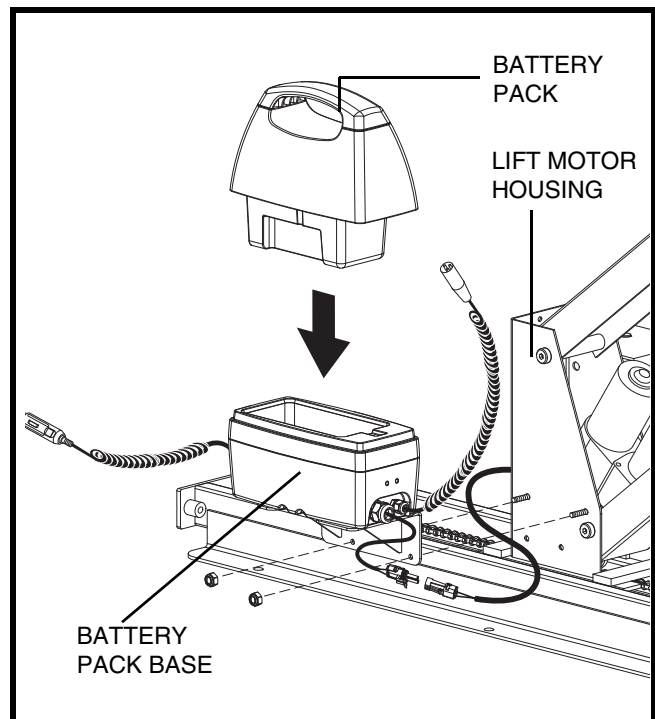

Figure 5. Onboard Battery Installation (Type II)
1. Remove the rubber caps, nuts, and spacer bar from the protruding bolts on the side of the lift motor housing. See **figure 5**.
2. Mount the battery pack base onto the protruding bolts and secure into position with the nuts removed earlier. See **figure 5**.